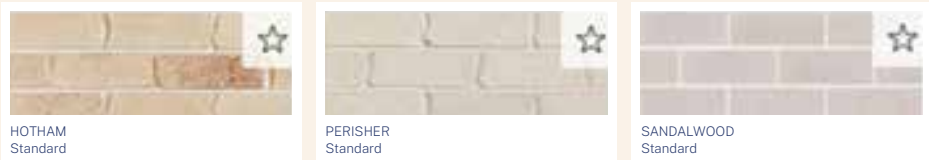

Figure 1 – Bricks are from PGH Bricks
- Brickwork on the ground storey should be rendered and painted. In instances where the brickwork is not rendered or painted, bricks of light pastel colours are permitted as per figure 1 below. Dark brick colours are not permitted.
- Fibrous Cement (FC) sheeting with battens is not permitted.